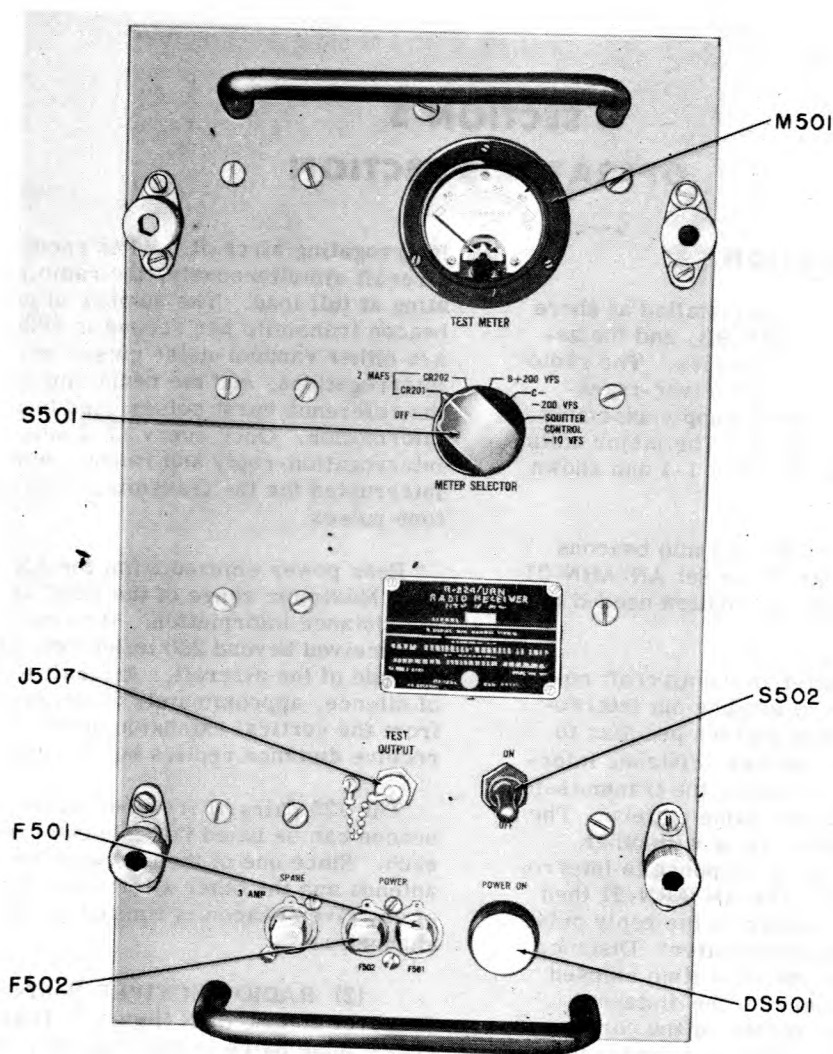

Figure 3-1. Radio Receiver R-824/URN, Front Panel View
(2) **RADIO RECEIVER R-824/URN.** —Radio Receiver R-824/URN (figure 3-1) receives and decodes pulse pairs in the frequency range of 1025 to 1087 mc when the low-band antenna is used, and 1088 to 1150 mc when the high-band antenna is used.
(a) Radio Receiver R-824/URN (figure 3-1).
RADIO RECEIVER R-824/URN (figure 3-1)